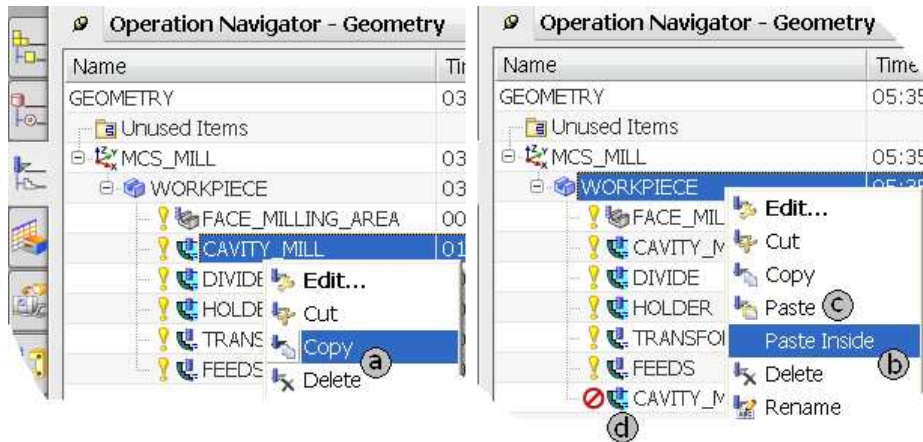

Figure 8.20. Copying operations within the same file
- Click on **MB3** on a specific **WORKPIECE**, onto which you want to copy the operation, and select the *Paste Inside* option — figure 8.20 (b).
- You can also click on another operation, after which you want to insert the copied operation – after its selection, choose the *Paste* option — figure 8.20 (c).
- The copied operation will have an out-of-date status (red marker) and it will be marked with **_COPY** index — as in figure 8.20 (d).
- Click on **MB3** on the operation (operations) and select the *Copy* option — figure 8.20 (a).
- Click on **MB3** on the specific **WORKPIECE**, onto which you want to copy the operation, and select the *Paste Inside* option — figure 8.20 (b).